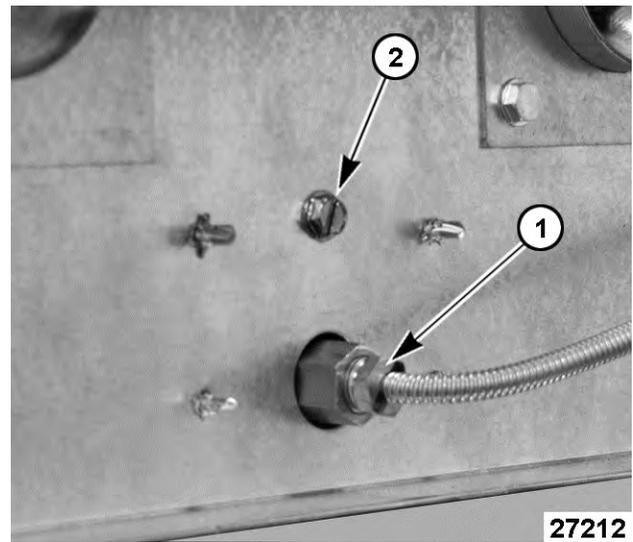
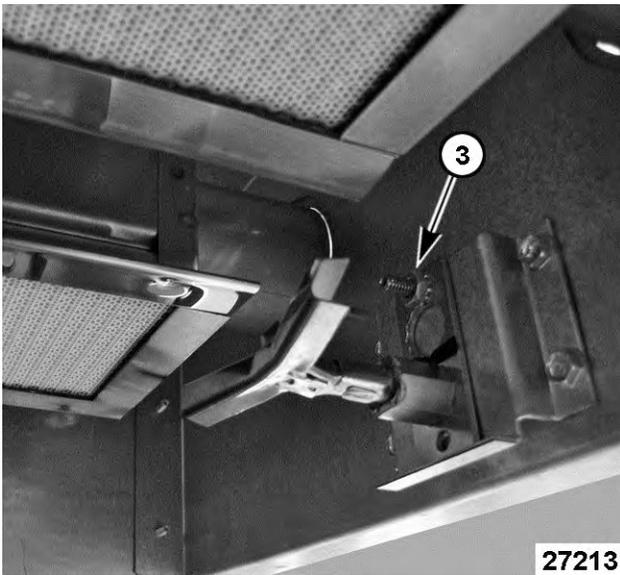

Fig. 10
Fig. 11
- Disconnect compression fitting [1] Fig. 10 for pilot gas tubing.
- Remove screw [2] Fig. 10 and lock washer nut [3] Fig. 11 securing pilot to mounting bracket.